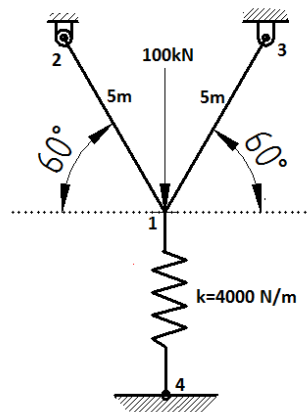

Figure 5
3. For the plane stress supported by the spring at node 1 shown in figure 5, (10) determine the nodal displacements and stresses in each elements. Let $E = 210 \text{ GPa}$ and $A = 5 \times 10^{-4} \text{ m}^2$ for both the truss elements.